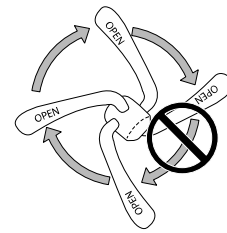

Figure 11. Do not turn like wing-nut
- Do not turn the lever like a wing-nut to tighten it (Figure 11); this will not make sufficient force to hold the wheel.